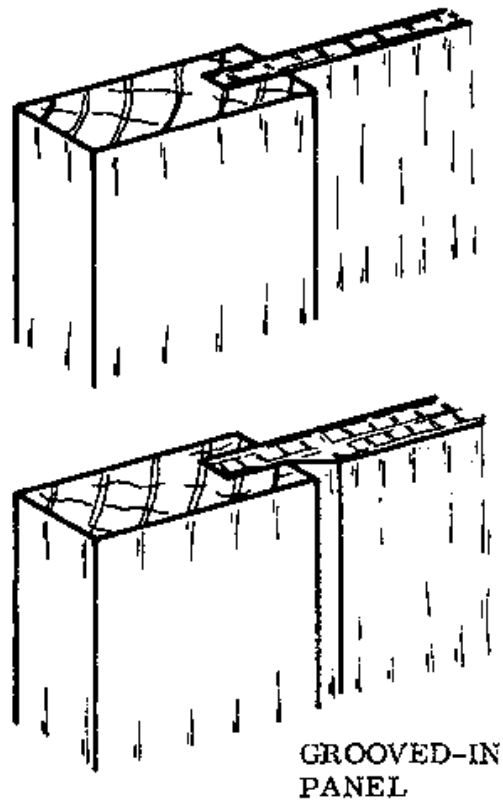

Fig. 2
- GROOVED-IN PANEL: This construction can be used only on doors which will be protected from the rain. If water enters the groove, it will not be able to dry out and can cause the plywood to rot (Fig. 2).